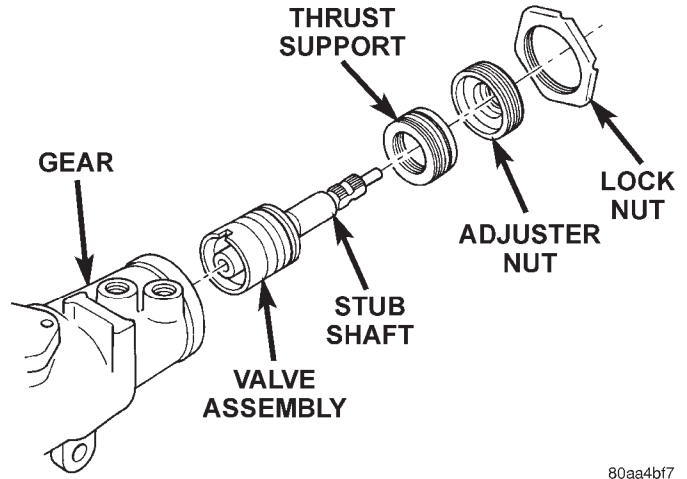

Fig. 13 Valve Assembly With Stub Shaft
- (4) Pull stub shaft and valve assembly from the housing (Fig. 13).